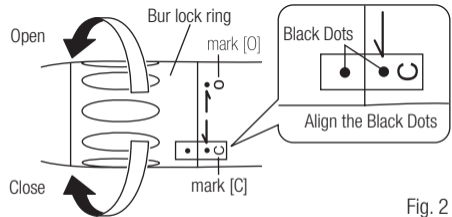

Fig. 2
- 3) Turn the Bur Lock Ring in the direction of the mark [C] until it clicks. Make sure Black Dots align (Fig. 2).